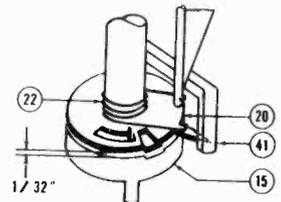

Fig. 8
- c. Lift Pick-up Arm (1) and note Set Screw (11) (See Fig. 7). Note: It may be necessary to line up hole in Adjusting Ring (8) by moving Adjustment Screws, to gain access to Set Screw (11). After loosening Set Screw (11), turn Ratchet Arm (15) until pin on upper side reaches end of slot closest to leg on Set Down Locator (20) (See Fig. 8).
4. Ratchet Arm (15) not disengaging from the Set Down Locator (20) when a cycle is completed. There should be a space of approximately 1/32" between the above parts. See Fig. 8 as well as section entitled "To Disassemble Pick-up Arm Mechanism" on Page 7.